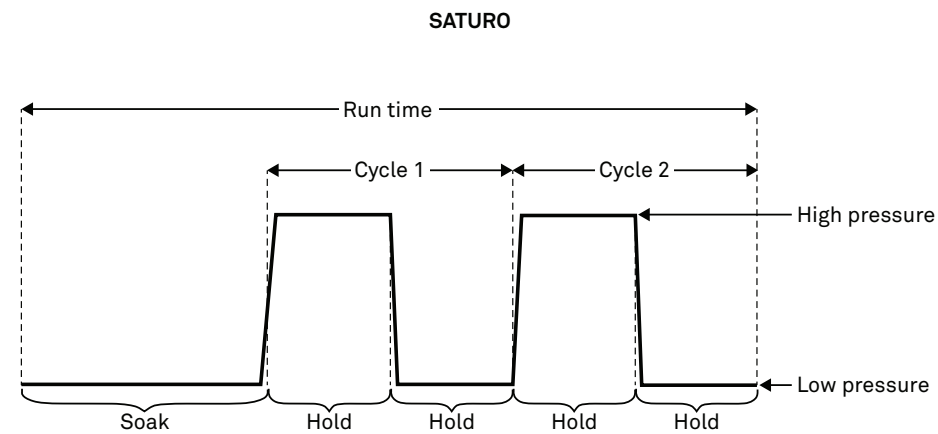

Figure 4 Run time diagram
- d. Set the hold time (Figure 4).